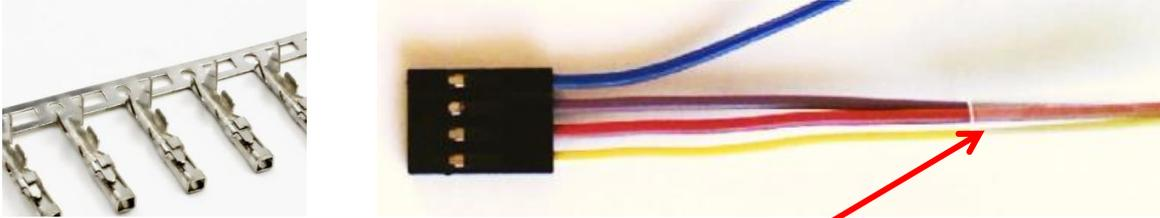

Figure 6
- Prepare a 4-pin "Dupont / Pololu" female connector with 15cm wires (see Figure 6). [Component 12, Component 13, Component 17].
- Make a second 15cm long 3-pin Dupont / Pololu cable as shown in Figure 6, but leave pin 4 empty.